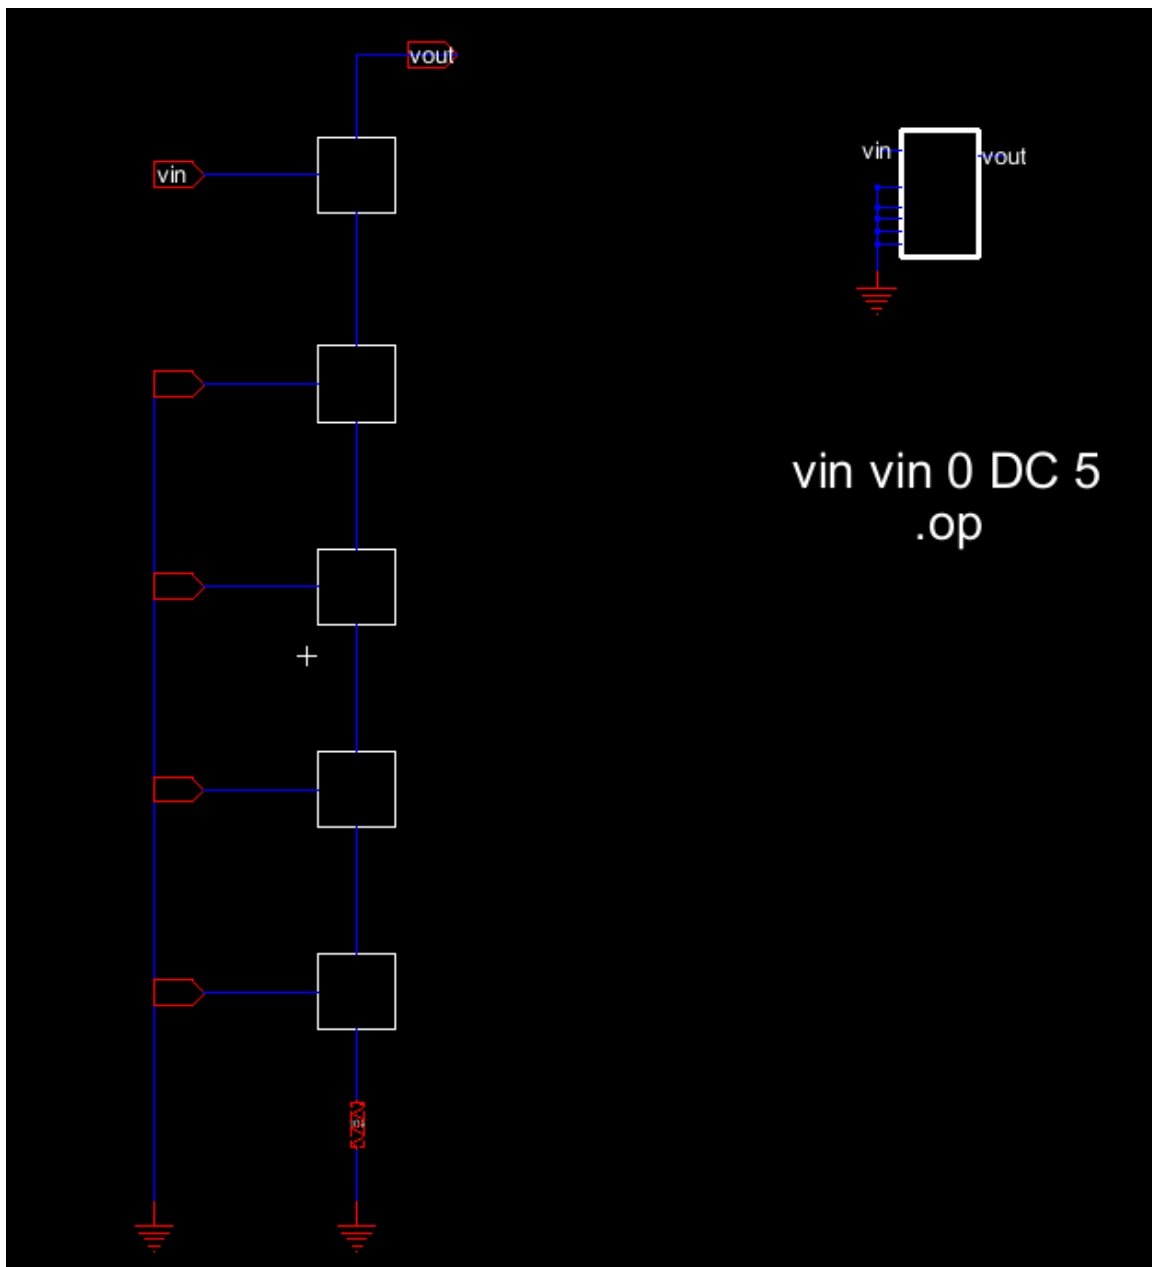

Figure 3.1: Grounded DAC Schematic & Icon
- Figure 3.1 displays the DAC schematic and icon where all of bits 0-3 are grounded, but bit 4 has an input voltage of 5V.